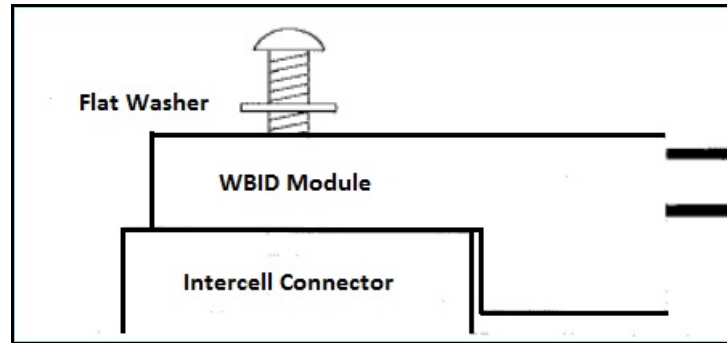

Figure 3: Attach WBID to Intercell Connector
- Attach the WBID to the intercell connector using the two holes drilled in step 4f and the two 6-32 x 3/4" machine screws with two of the #6 flat washers as shown in Figure 3.